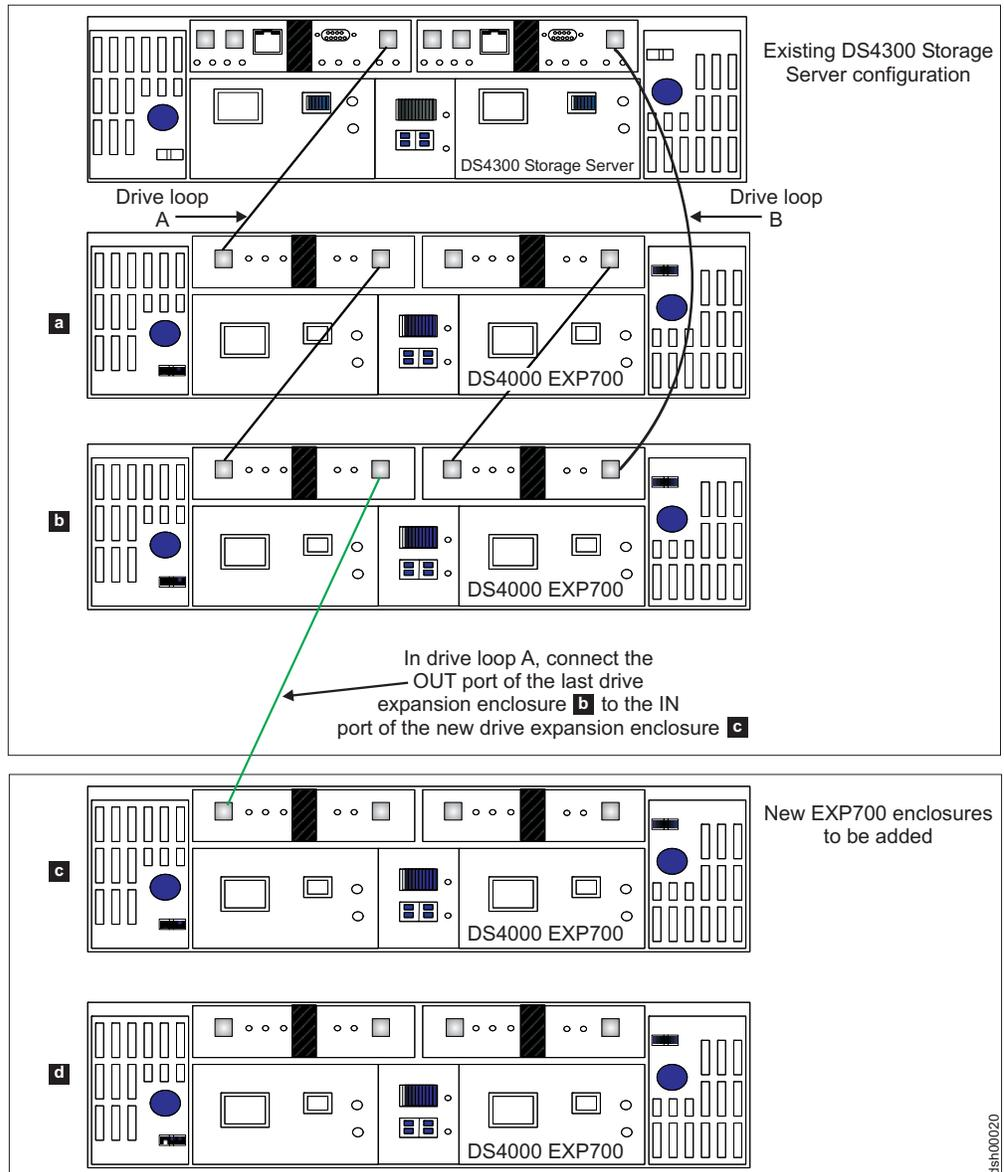
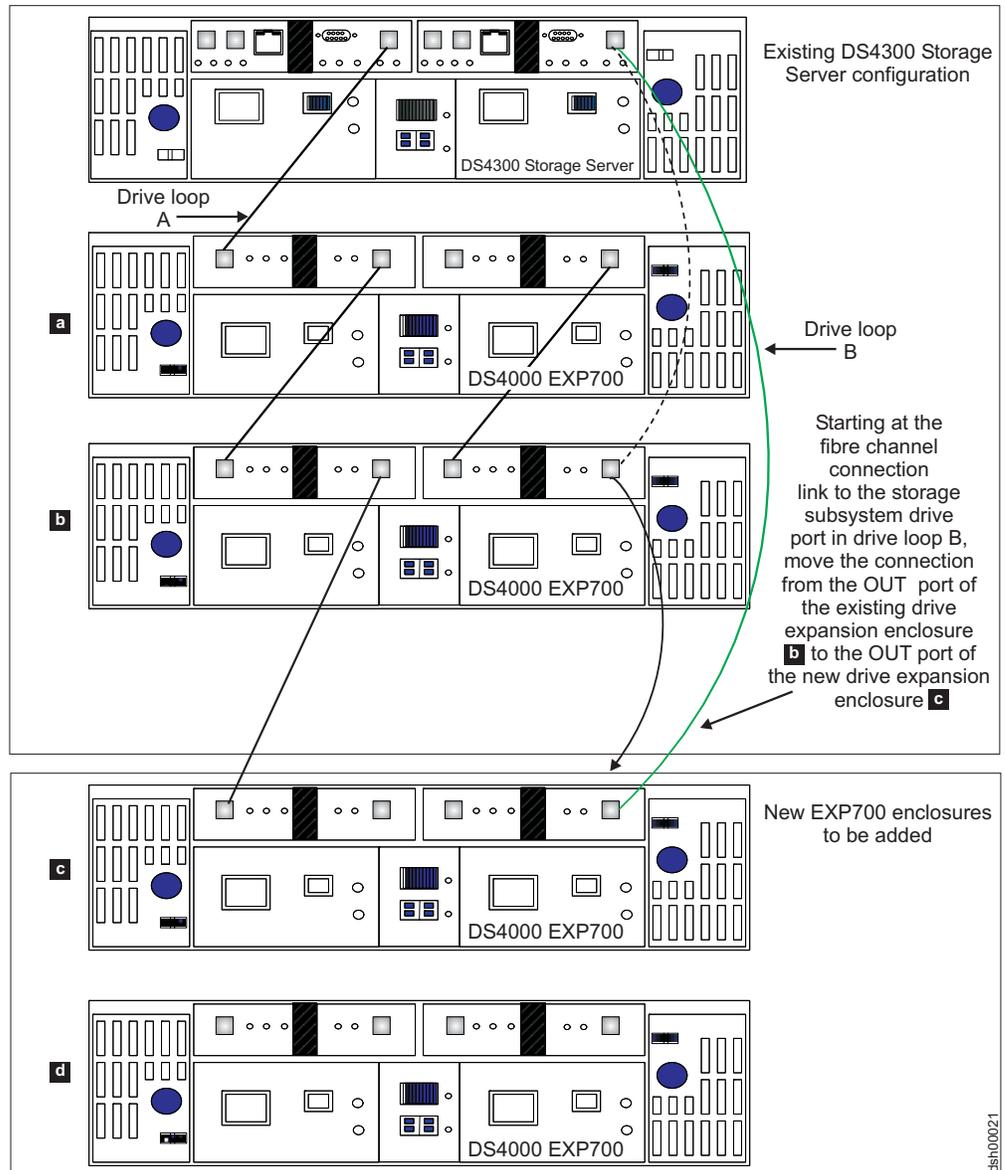
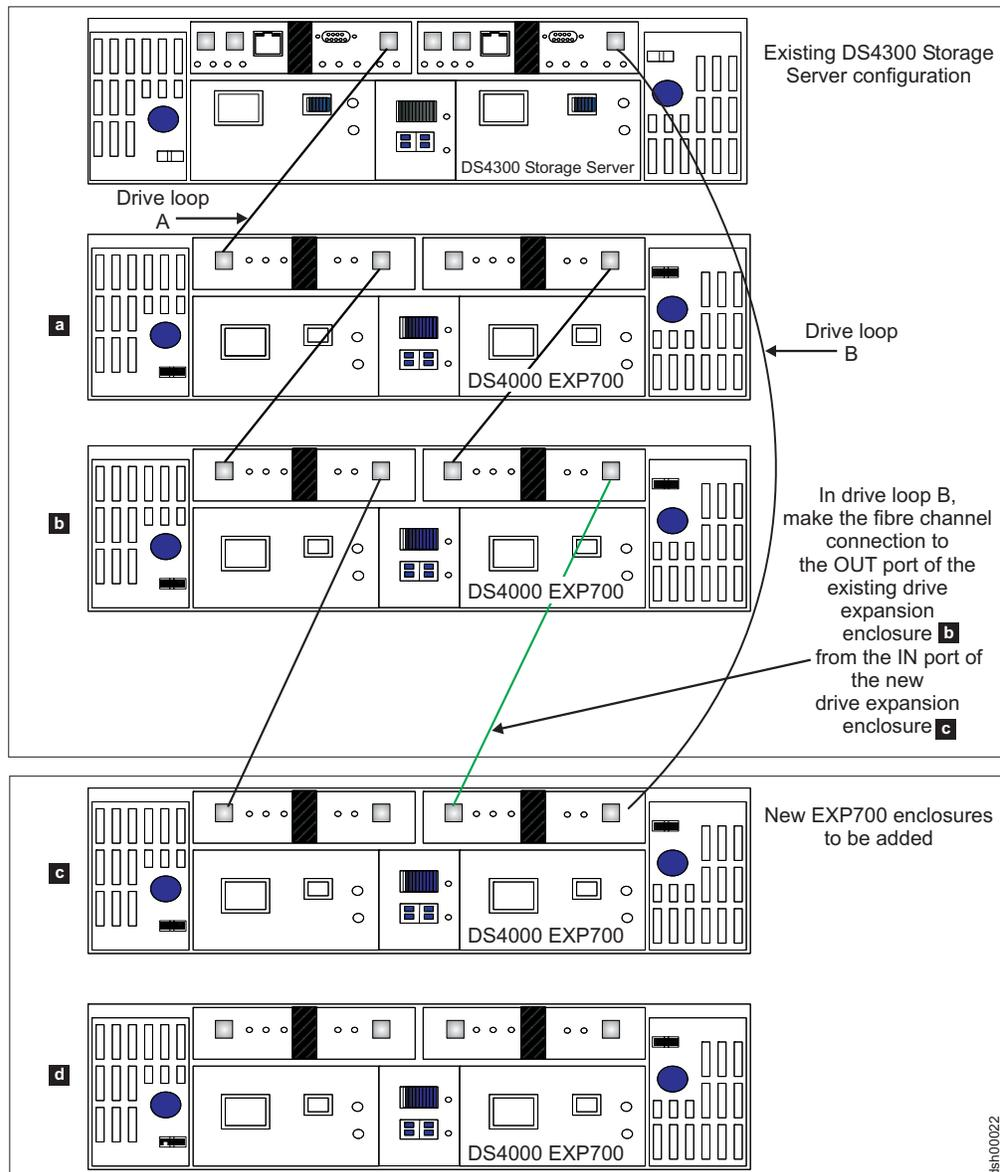

Figure 31. Cabling a single drive enclosure to the end of a functioning drive loop (step 1 of 3)
Figure 32. Cabling a single drive enclosure to the end of a functioning drive loop (step 2 of 3)
Figure 33. Cabling a single drive enclosure to the end of a functioning drive loop (step 3 of 3)
The cabling instructions illustrated in Figure 31 on page 84, Figure 32 on page 85, and Figure 33 on page 86 describe cabling a DS4000 EXP700 Storage Expansion Enclosure to the end (bottom) of a redundant drive loop of a functioning DS4300 Storage Subsystem (model 60X or 60U). Again, IBM recommends that you add storage expansion enclosures to an existing drive loops only in this manner.
- ___ Step 2. Extend one of the drive loops (that is, drive loop A) in a DS4000 Storage Subsystem redundant drive loop pair by connecting the OUT port of the last storage expansion enclosure to the IN port of the new storage expansion enclosure as shown in Figure 31 on page 84.
- ___ Step 5. In the other drive loop (that is, drive loop B) in a DS4000 Storage Subsystem redundant drive loop pair, remove the connection from the storage subsystem drive loop port to the OUT port of the last storage expansion enclosure and connect it to the OUT port of the new drive enclosure as shown in Figure 32 on page 85.
- ___ Step 7. In drive loop B, cable the new drive enclosure's IN port to the OUT port of the last enclosure in the already functioning storage expansion enclosure drive loop as shown in Figure 33 on page 86.